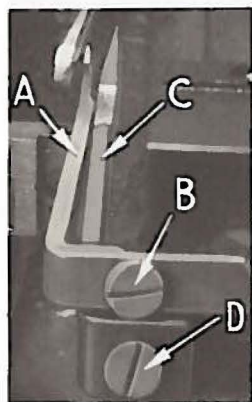

Fig. 5
Set rear needle guard (A, Fig. 5) as high as possible, without interfering with either lower looper or spreader or movement of lower knife holder; but still in position to deflect needle forward .002 - .004 inch. Screw (B) is used to set rear needle guard. Make sure there is no interference between rear needle guard and lower looper or spreader.
Assemble front needle guard (C, Fig. 5). When lower looper is springing needle off back guard, set front needle guard as close as possible to needle without touching. Screw (D) is used to adjust and set front needle guard. After this setting, make sure there is no interference between needle guards and differential feed dog.